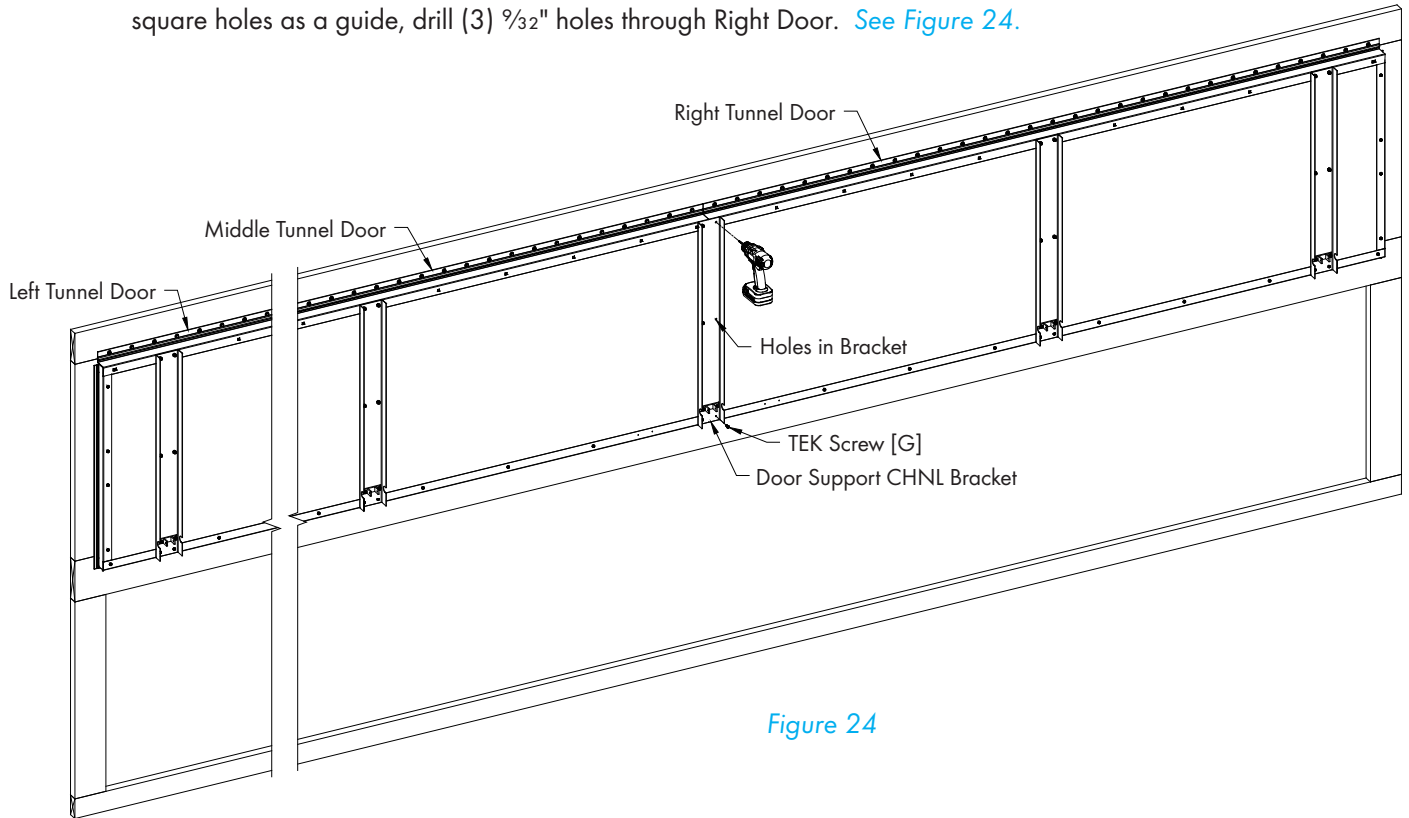

Figure 24
Secure Door Support CHNL Bracket from Middle Door to Right Door using (1) TEK Screws [G]. Then using the square holes as a guide, drill (3) $\frac{3}{32}$ " holes through Right Door. See Figure 24.